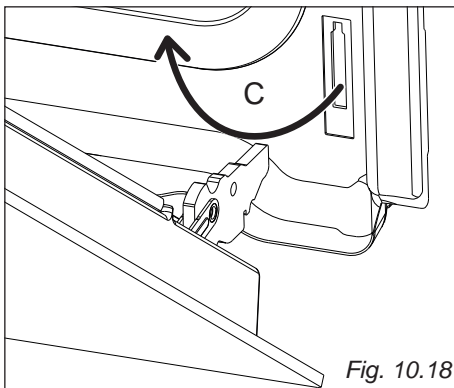

Fig. 10.18
- Withdraw the hinge hooks from their location following arrow "C" (fig. 10.18).